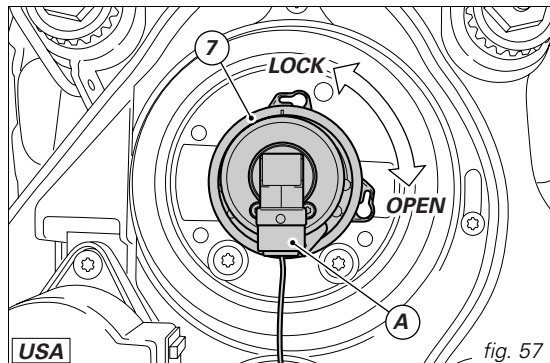

fig. 57
To remove the low beam bulb (7), detach the connector (A) from the wiring, then turn the bulb counter-clockwise to remove it (fig. 57). Replace with a bulb of equal rating. When fitting the new bulb turn it clockwise to lock it in the holder.